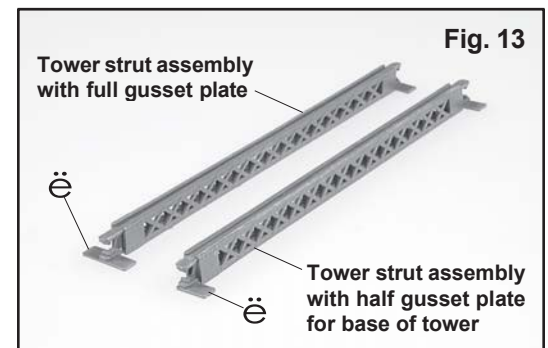
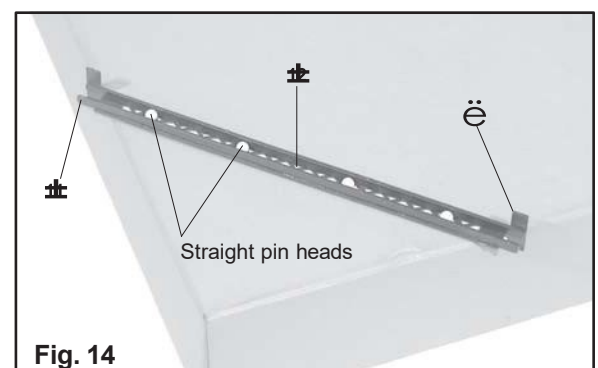

Fig. 13
Fig. 14
10. Trim off half the gusset plates of a **tower strut side, inside** part (10). This step may need to be skipped. See the note above before starting this step.
Lay a part (10) flat on the work surface with the gusset plates down. With a razor knife, trim off half the gusset plate at each end, along the same side of part (10). Repeat with a second part (10). See fig. 13.
11. Cement a **tower strut side, inside** part (10) to a **tower strut lattice** part (12).
On a block of soft wood or a piece of cardboard, place part (12) with the rib side up, across a corner of the block so both ends overhang the block slightly. See fig. 14. Pin the part to the block with several straight pins so it cannot move. Place part (10) on edge, centered on part (12), against the inside of the raised rib, with the gusset plates to the outside. Apply cement along the rib, making sure part (10) is vertical and perpendicular to part (12). Use the plates at each end for reference.
12. Cement a **tower strut side, outside** part (11) to the tower strut assembly.